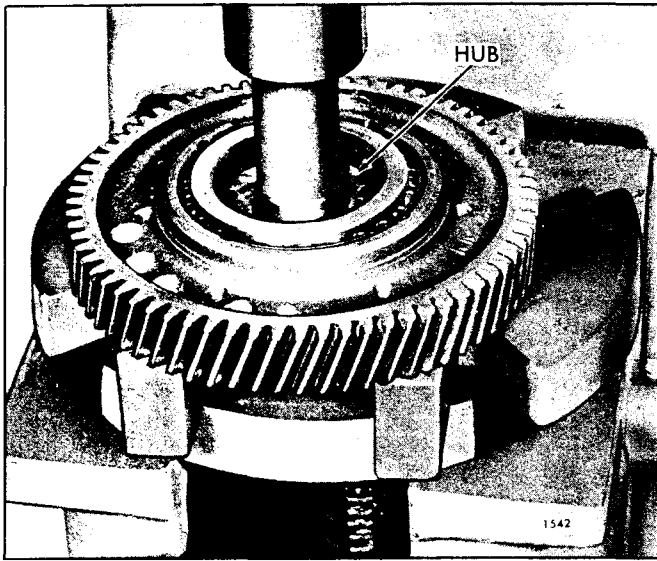

Fig. 5 - Pressing Hub Out of Bearing
3. Place the idler gear and bearing assembly in an arbor press with the bearing cone or inner race supported on steel blocks as shown in Fig. 5. While rotating the gear assembly, press the hub out of the bearing. Remove the gear assembly from the arbor press and remove the bearing cones and spacer.